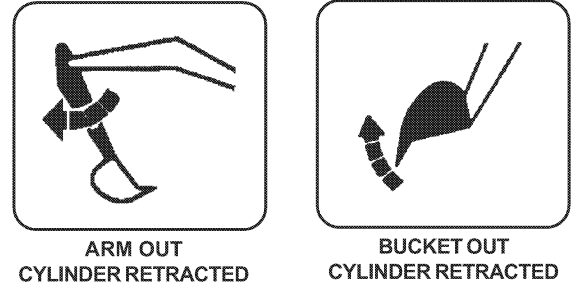

FIGURE 4.1
4. Operate the Bucket Out Control until bucket is completely out (retracting cylinder). See Figure 4.1.